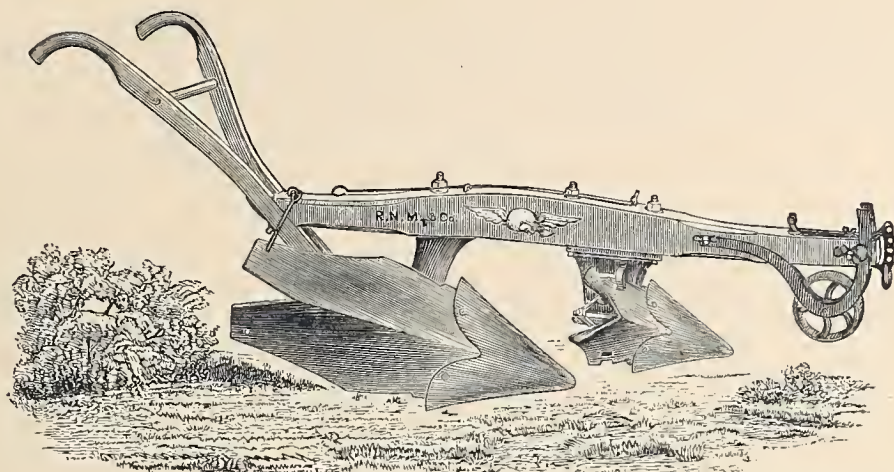

Fig. 288. — Eagle Sod and Subsoil Swivel Plow, No. 85.
**Eagle Sod and Subsoil Swivel Plow, No. 85**, represented by *Fig. 288*, was invented by Knox; and its mould-boards are formed on the principles perfected by him. It is so constructed that two plows attached to one beam are readily changed from one side to the other, turning the furrow-slices either to the right or left as desired. The forward plow turns the sod to the depth of about three inches, depositing it at the bottom of the channel; while the rear plow, working deeper by five to seven inches, and in width ten to twelve inches, raises and pulverizes the under or subsoil, and deposits it upon the forward furrow-slice, thus combining the advantages of a SWIVEL PLOW with the sod and subsoil principle explained on page 18.